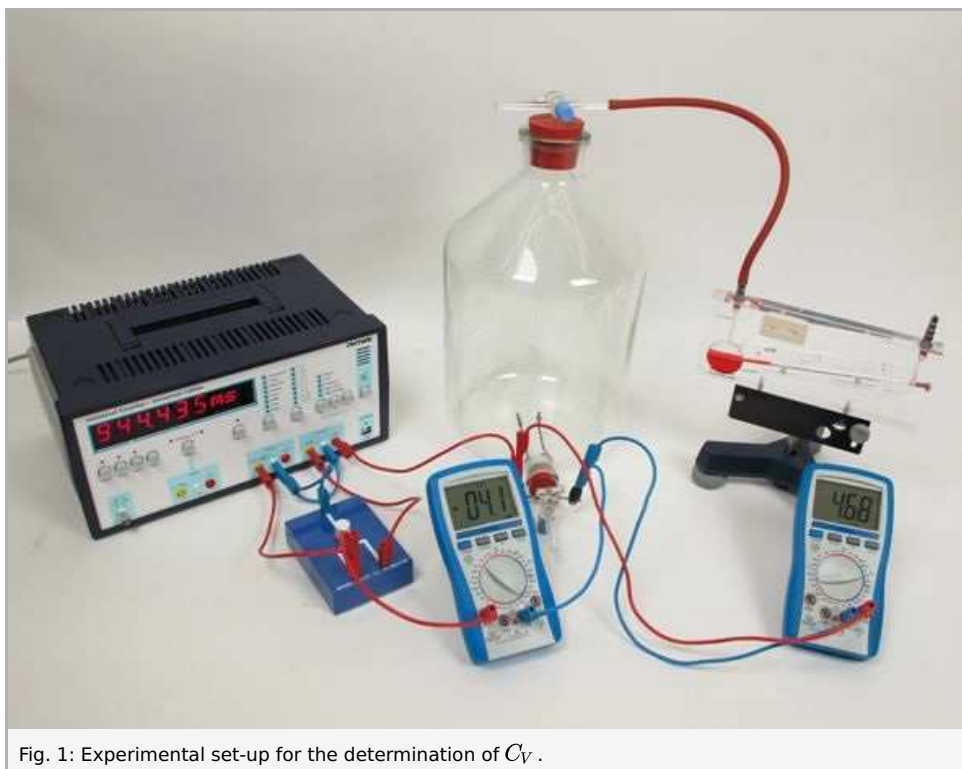

Fig. 1: Experimental set-up for the determination of  $C_V$ .
- Perform the experimental set-up according to Figs. 1 and 2 respectively.
- Insert the second stopper, which has been equipped with the three-way stopcock, into the upper opening of the bottle (Fig. 1) and connect the precision manometer to the bottle with a piece of tubing.